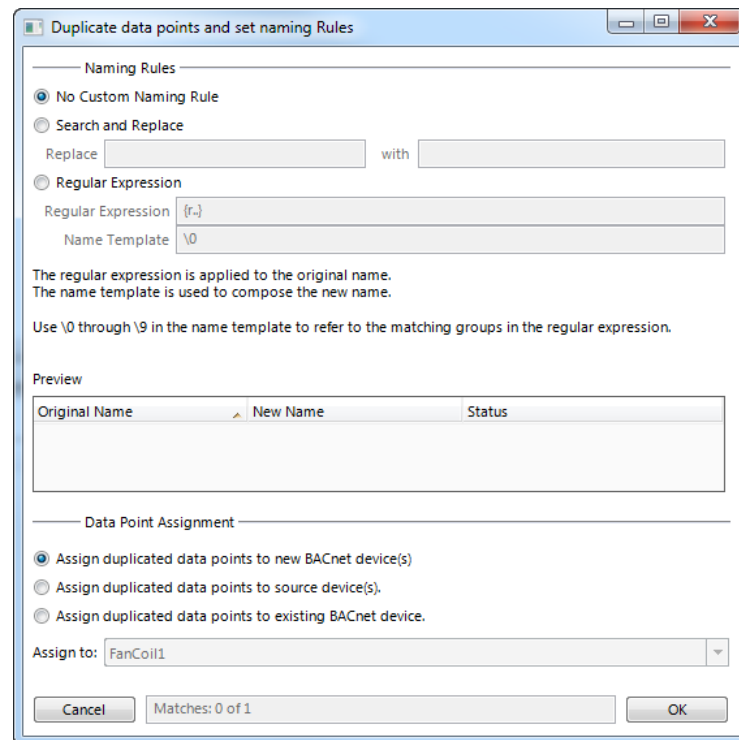

Figure 172: Duplicate BACnet devices.
3. The **Duplicate data points and set naming rules** dialog opens as shown in Figure 172.